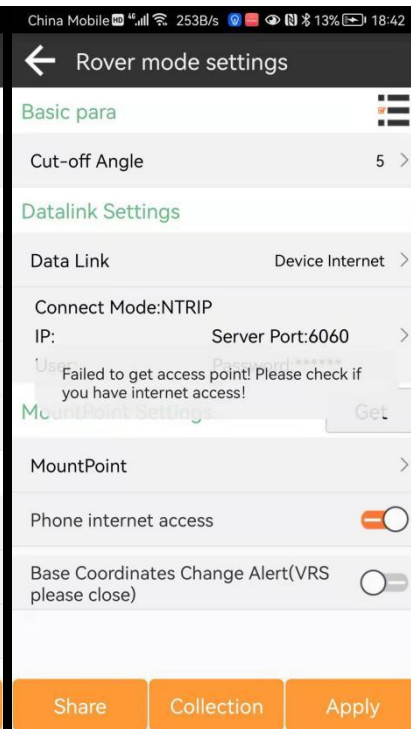

Figure 3.3-2
2. Known point start: As shown in Figure 3.3-2, it refers to the equipment erection location of the user, where the user knows the coordinate position in advance, and uses this coordinate value as the starting coordinate to output the differential broadcast data.